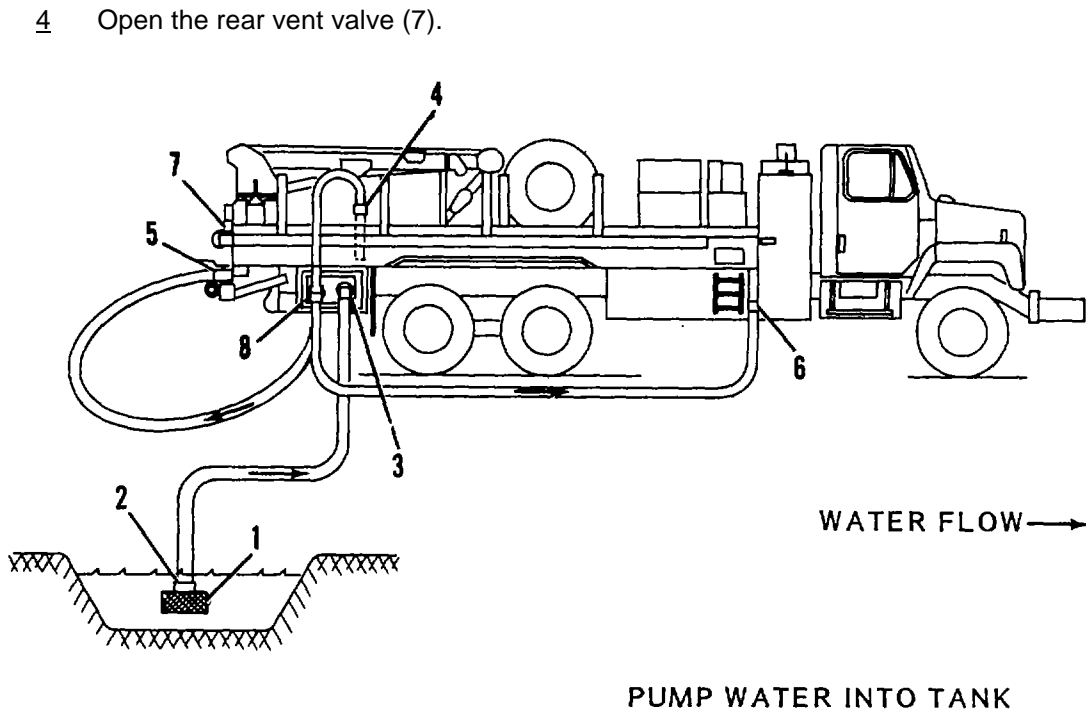

Figure 2-37. Pump Water Into Tank
(a) Pump Water Into Tank. (See Figure 2-37).
- 8 Close the rear vent valve (7, figure 2-37).
- 9 Open the pump drain valve (8).
- 10 If front (6) or rear (5) valve was used to fill tank, close the valve first; then uncouple hoses; replace in storage chamber and secure.